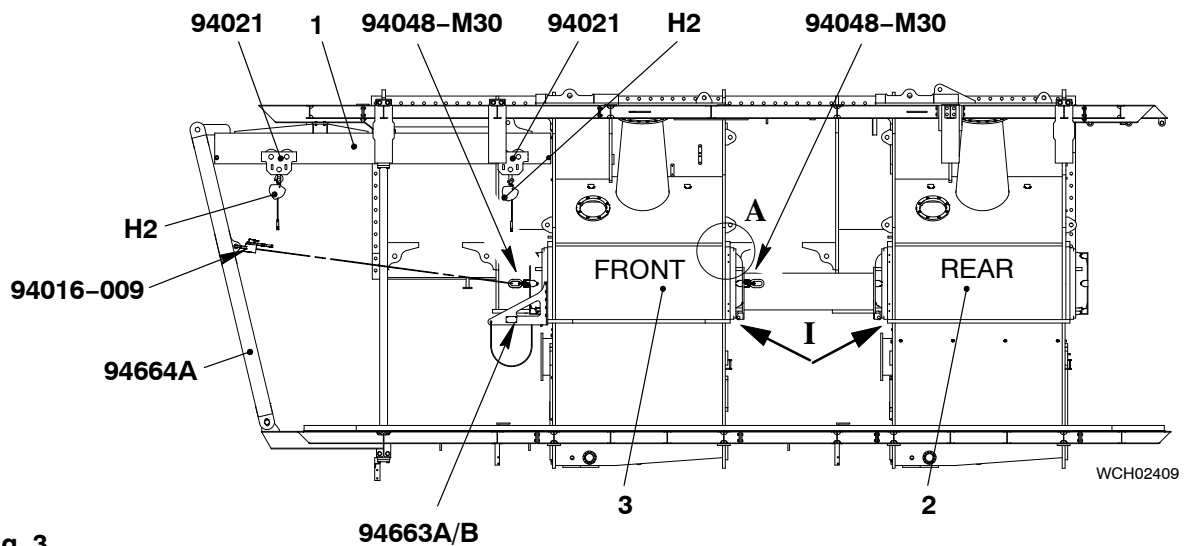

Fig. 3
**Note:** If the front SAC (3, Fig. 3) only is to be removed, do only paragraph 2.1.